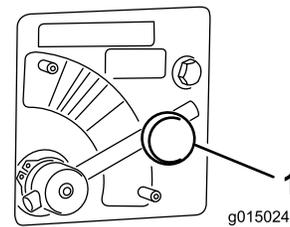

Figure 45
1. Loosen the knob securing the spinner valve lever (Figure 45).
2. Rotate the spinner valve lever (Figure 45) to the desired color (yellow for this example).
1. Move the spinner valve lever to the **Blue** section (MAX SPEED) (Figure 45). Fully turned clockwise the lever should be horizontal.